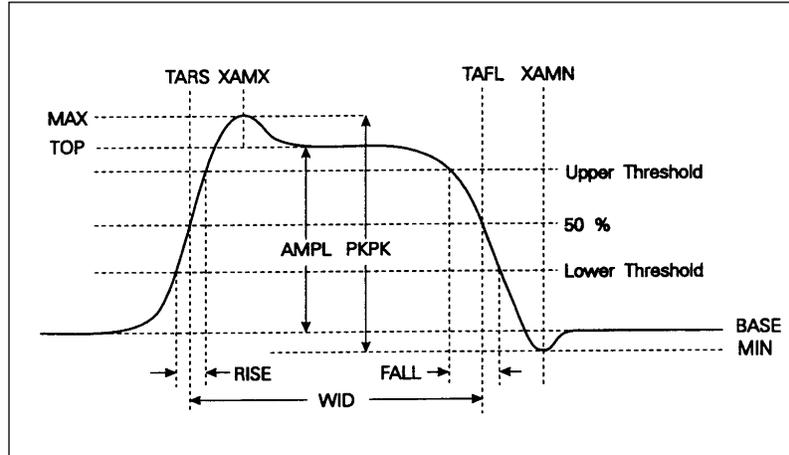

Figure A-1
- Diagram:** Figure A-1
Appendix A**Minimum Level****min****Diagram:** Figure A-1**Description:** MINIMUM LEVEL measures the lowest point in a waveform. MIN makes no such assumptions that the waveform has two basic levels.**Definition:** Lowest value in the waveform between the cursors.**Units:** Volts
Diagram: Figure A-1
Diagram:	Figures A-1 and A-2